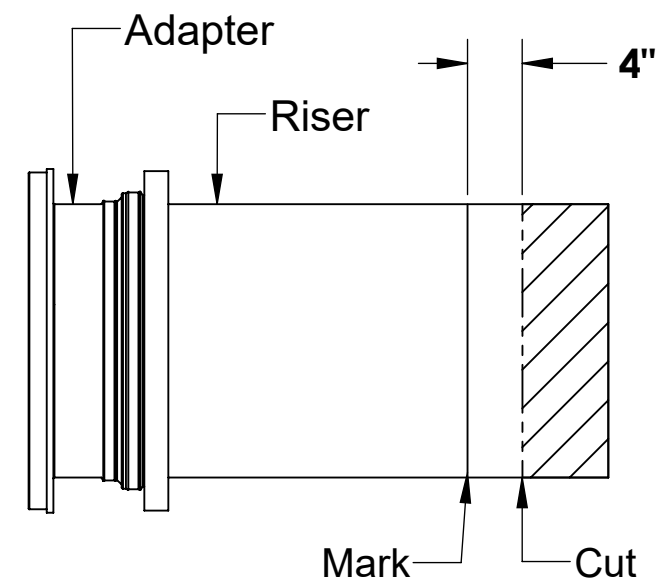

Figure 3
7. Whether the riser needs to be cut or not, make another mark with the silver marker on the sidewall of the riser a distance of 4 INCHES the edge just cut. If you did not make a cut (meaning your riser height + dimension from step 5 line was beyond the bottom edge of your riser), still mark the sidewall of the riser 4 INCHES above where your riser height + dimension from step 5 line would have been. DO NOT cut this new line. Once the riser is installed into the main unit, this new line will end up at the top of the gasket and will aid in re-assembly. See Figure 3.